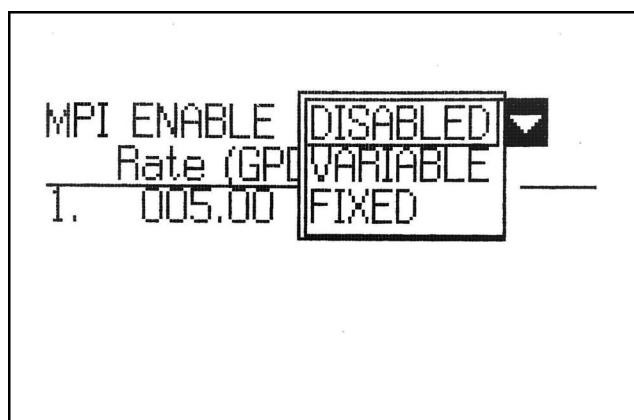

FIG. 22: Multiple Point Injection screen
5. Select MPI ENABLE Selection box and press Enter to display the list of mode options. (See FIG. 22.)